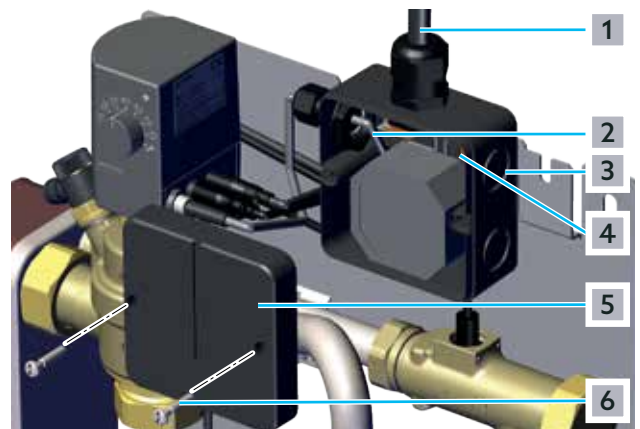

Fig. 13: Connecting the dwelling station electrically
- 1 Loosen the screws ((6) in Fig. 13 on page 20) and remove the cover (5) of the connection box (3).
- 2 Connect the power supply cable (1) to the prepared terminals (4) in the connection box.